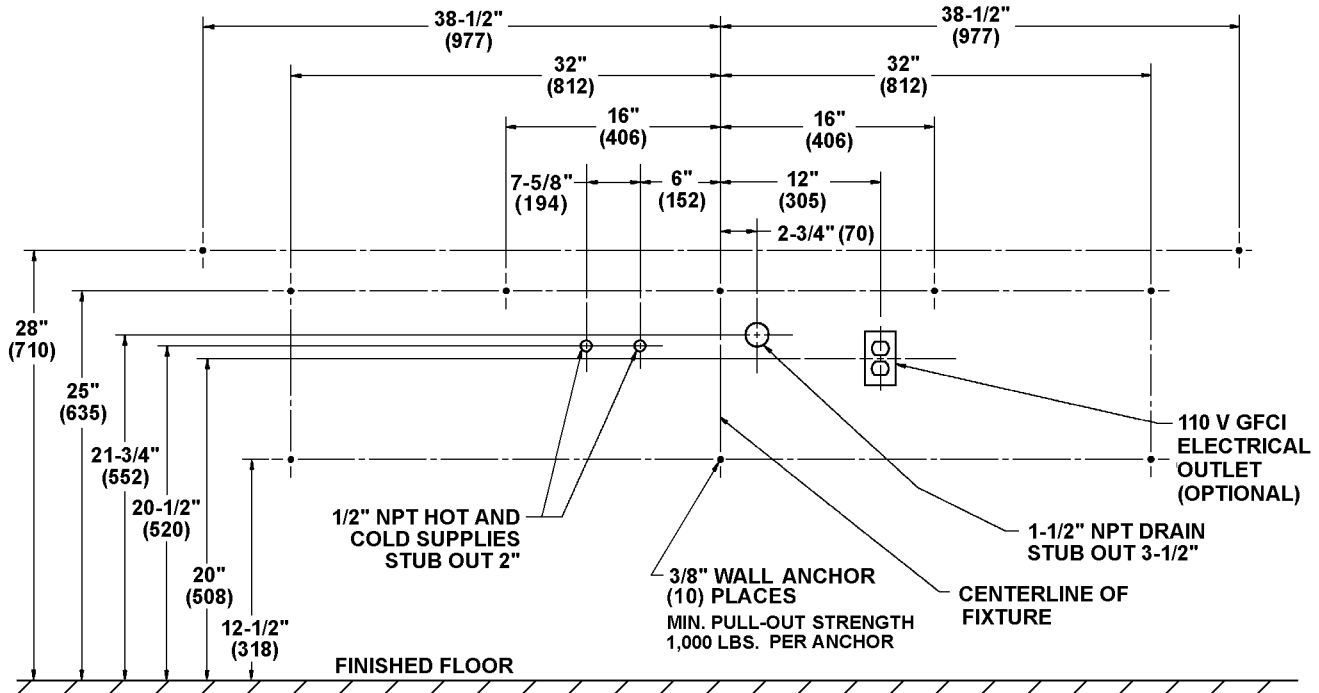

Figure 1b
IMPORTANT: Dimensions in Figure 1a are for a Standard Height Express® Deck only. See Figure 1b on page 4 for Juvenile Height Express® Deck.
3. Install ten 3/8" wall anchors with a minimum pull-out rating of 1,000 lbs. (supplied by installer) at the locations shown in Figure 1a below or Figure 1b on page 4.